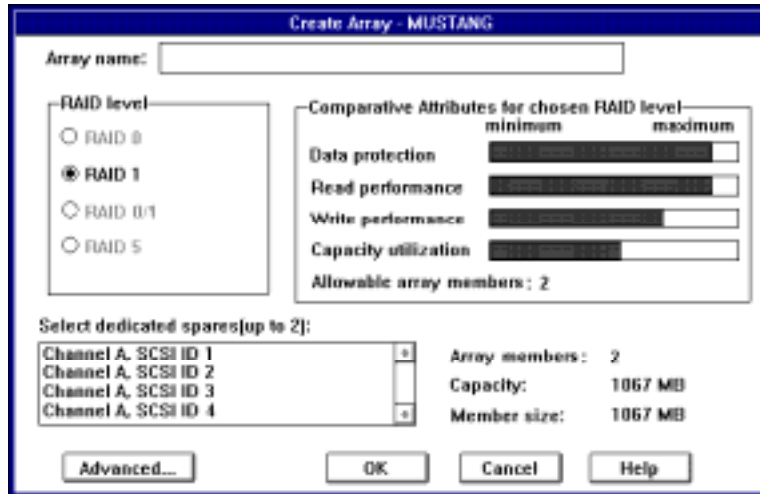

Figure 4-4. Create Array Dialog Box
- 4 Click **Create Array...** The Create Array dialog box appears, as shown in Figure 4-4.